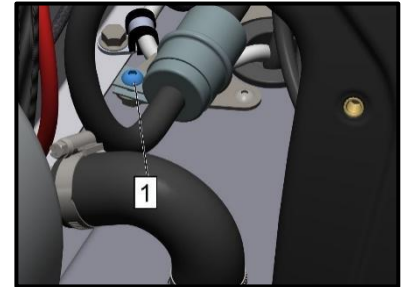

Fig. 16
7. Use a 4mm hex wrench to unscrew the screws (Position 1, Figure 16). Recycle the screws from the TPU into the container. Replace with new screws during installation. Tightening torque - 8.0 N * m
14. Replace the filter fixing screw (pos.1, Fig. 16) with a new one.